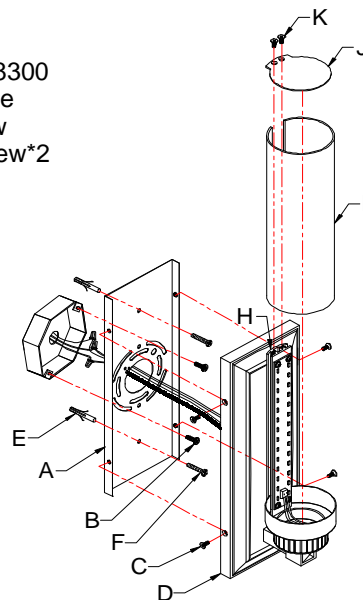

Fig. 2
CONNECTING THE WIRES (Fig. 2)
6. At this point, connect the electrical wires as shown in Fig. 2, making sure that all wire connectors are secured. If your outlet box has a ground wire (green or bare copper), connect the fixture's ground wire directly to the mounting plate using the green screw provided. After the wires are connected, tuck them carefully inside the junction box.